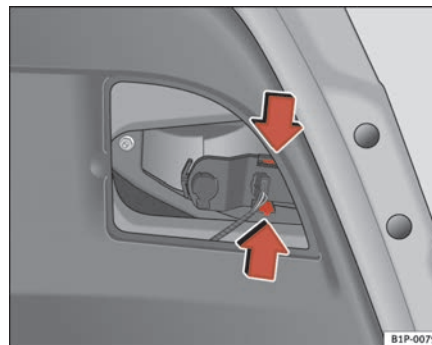

Fig. 168 Removing the lampholder
- Take the lampholder out pressing on the securing pins and extract it outwards ⇒ page 249, fig. 168.